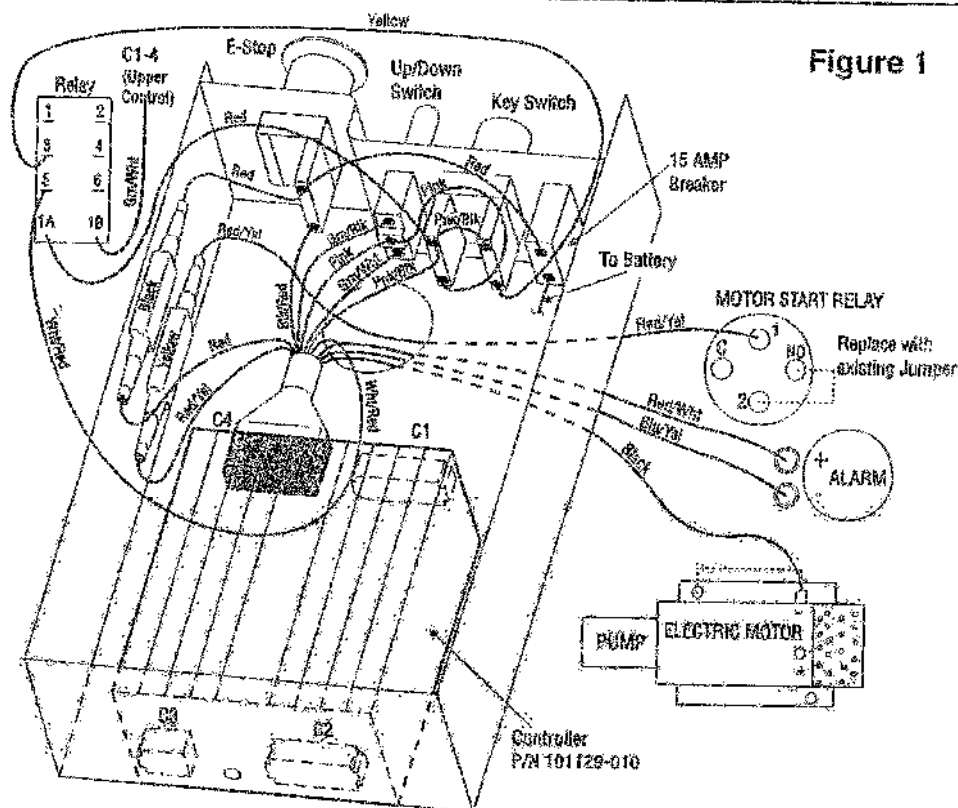
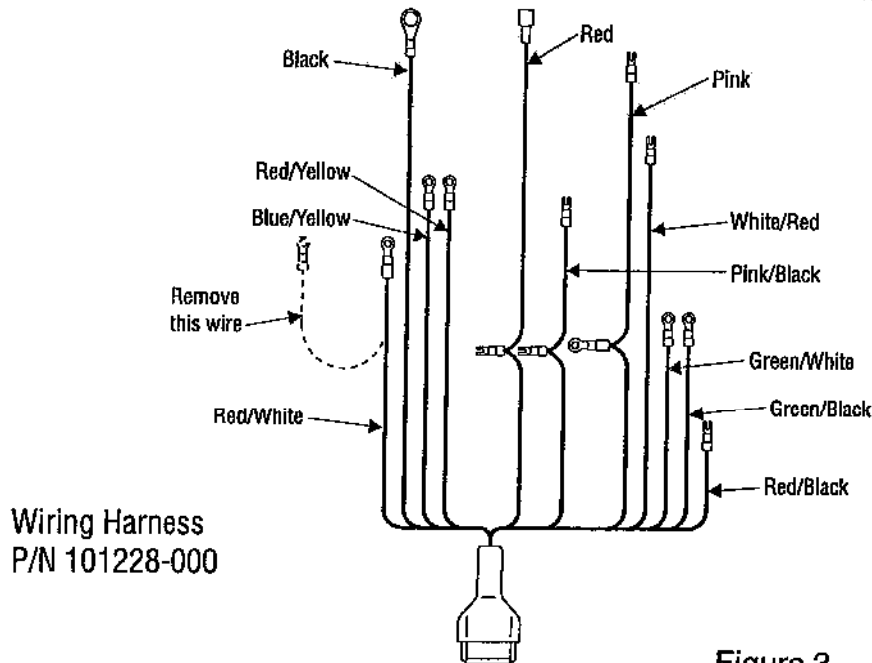

Figure 1
Figure 3
PROCEDURES: Read all instructions thoroughly and refer to Figures 1- 4 and schematics before starting.
8. Install Wiring Harness (#101228-000) as illustrated in Figure 3 according to the drawing in Figure 1.